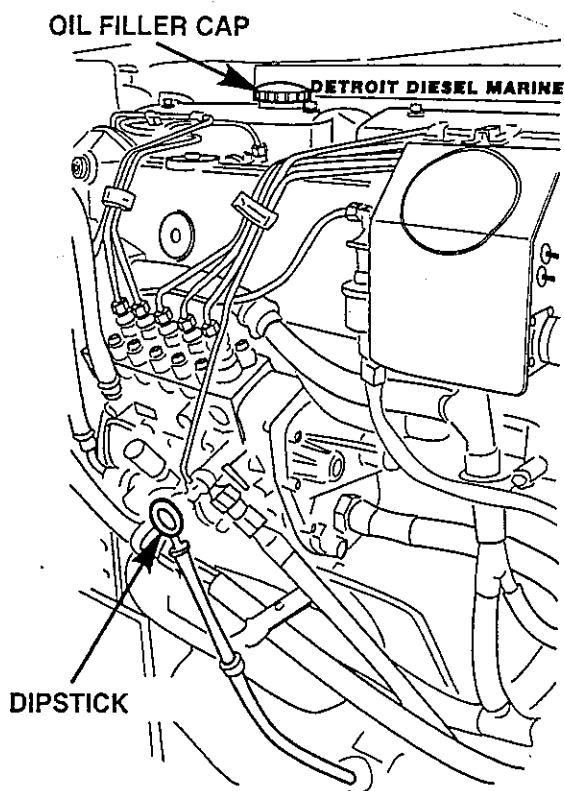

Figure 3-3 Checking Engine Oil
4. Check the engine oil level. See Figure 3-3. Pull out dipstick and make sure level is up to upper mark. If the engines need oil, refer to Section 5, Maintenance for engine oil type and filling instructions.